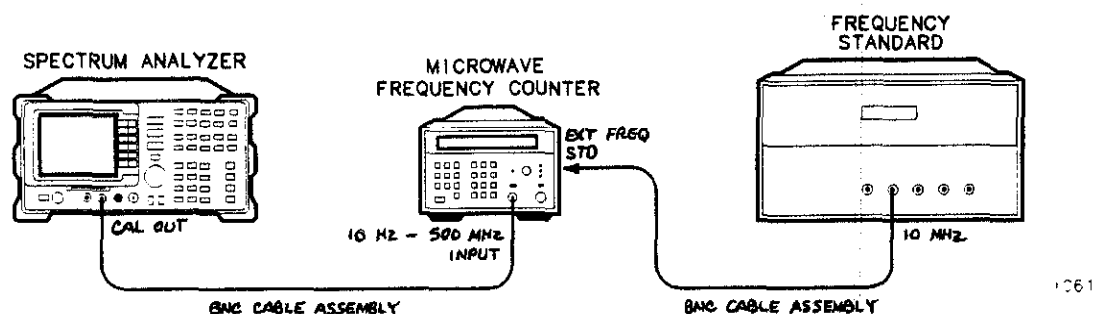

Figure 1-1. 10 MHz Reference Test Setup
1. Connect the equipment as shown in Figure 1-1.